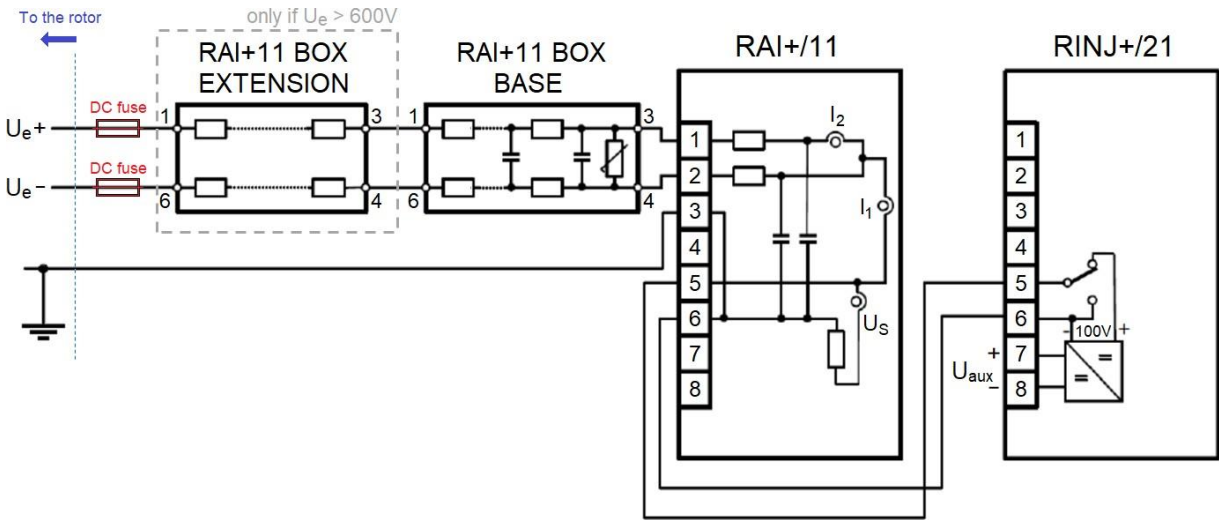

Figure 1-2 Wiring for ConnType1 mode (connecting to two points)
The coupling units include resistance networks in boxes to be mounted externally on din rail (see Figure 1-2 below). In the first box (BASE) the network is constructed of resistors, capacitive filter elements, and voltage limiting circuit. This unit is applied in all cases. The resulting resistance for both sides is 35 k Ω which is added to the 5 k Ω inside the protection unit, resulting 40 k Ω coupling resistance. This unit can be applied alone up to 600 V excitation voltage.
- **ConnType1** if *both connection points* of the excitation circuit are available (Figure 1-2)
The injector and measuring units **are to be connected to the excitation circuit via fuses**, if the device connects to both the negative and positive brush of the rotor (*ConnType1*, see Figure 1-2). The applied fuse should be prepared for the special purpose: it should be capable of interrupting the high excitation DC current. A representative value at $U_n = 1000\text{ V}$ is $I_n = 2000\text{ A}$.